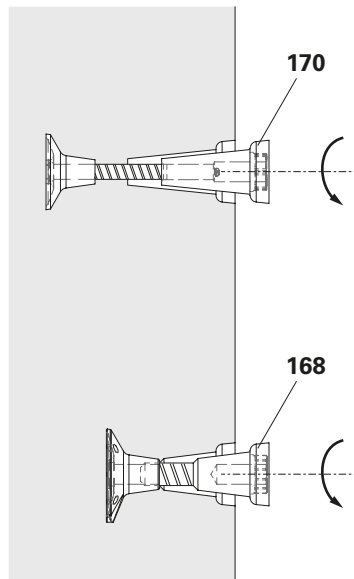

Fig. D2.08
1. Loosen the cone with a ring wrench AF 46 and unscrew it completely. (Fig. D2.08)